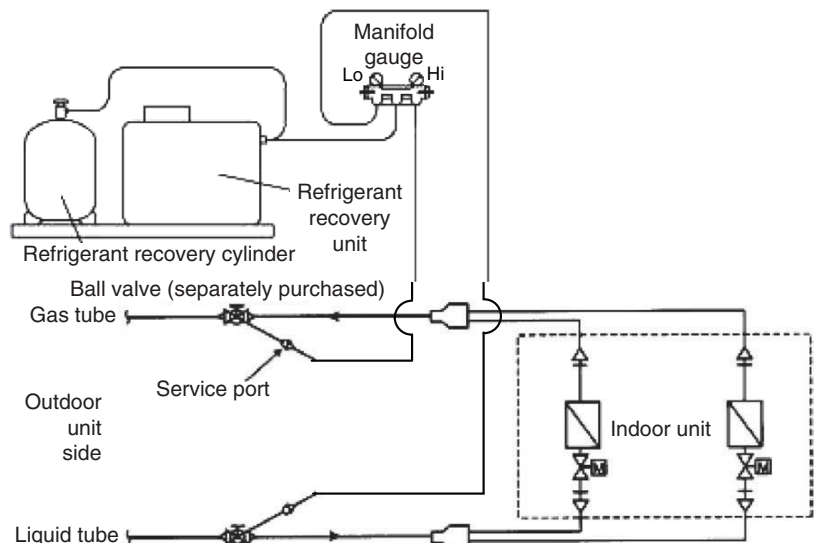

Fig. 10
- (1) If a ball valve with a service port has been provided in the indoor unit as shown in Fig. 10, follow the instructions given in (2) through (6) below. If the service port is instead located in the outdoor side, follow the instructions in "5-2-3. Refrigerant recovery procedures (2)."
- (2) After running the unit in Cooling mode for about 5 minutes as described in "5-2-1. Cooling operation (for all units)," fully close the liquid tube ball valve.
- (3) Run the unit in Cooling mode for 10 to 20 minutes more.
- (4) Fully close the gas tube ball valve, and stop the operation of all units.
- (5) Use hoses to connect the manifold gauge valves, refrigerant recovery unit, and refrigerant recovery cylinder with each other. (Fig. 10) Do each connection quickly to prevent air from entering the tubing.